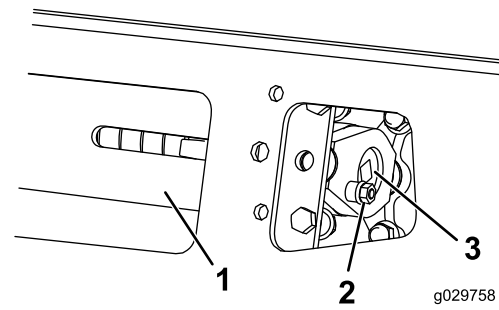

Figure 59
- Align the closest notch in the tension screw to the locking-bolt hole and secure the screw with the locking bolt and nut (Figure 59).
- Remove the locking bolt, spacer, and nut (Figure 59).
4. Remove the locking bolt and nut (Figure 59).
5. Using a 1/2-inch drive ratchet, release the drive tension by turning the tensioning screw clockwise (Figure 59 and Figure 65).